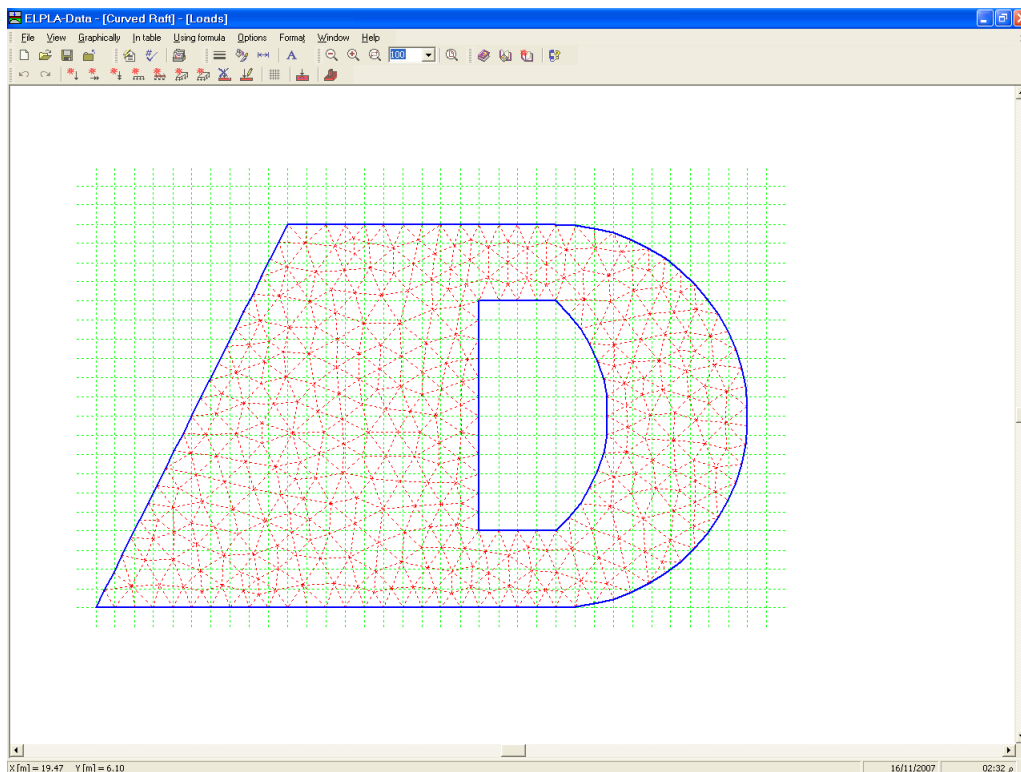

Figure 10-30 "Loads" embedded program
To define the loads, choose "Loads" command from "Data" menu of *ELPLA-Data*. The following embedded program in Figure 10-30 appears.
- Choose "Point loads" command from "In Table" menu in the window of Figure 10-30. The following list box in Figure 10-31 appears